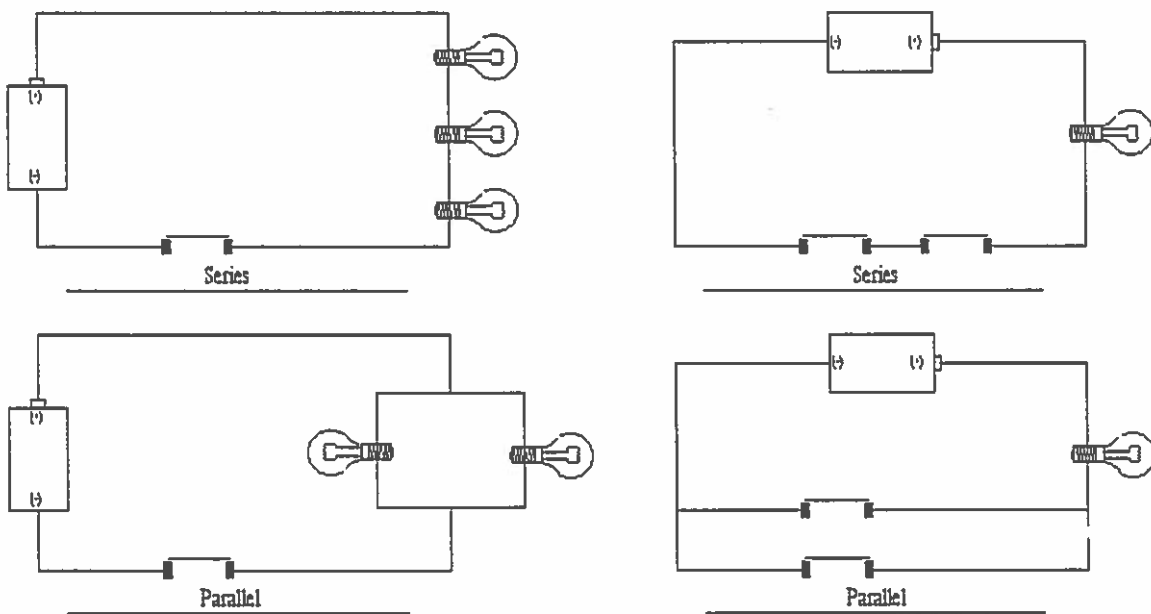

Figure 3-8
4. Identify the four circuits in Figure 3-8 as either parallel or series.